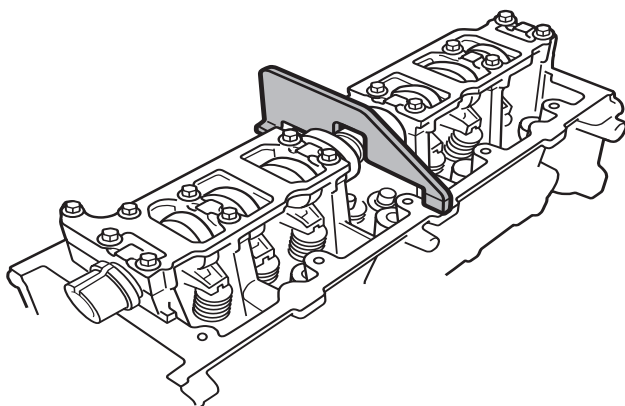

Figure 1
- **1991 4.6L 2V V8** : Refer to Figure 1. Install No. 511532 (6009) on flats of the camshaft to prevent accidental rotation of the camshafts.